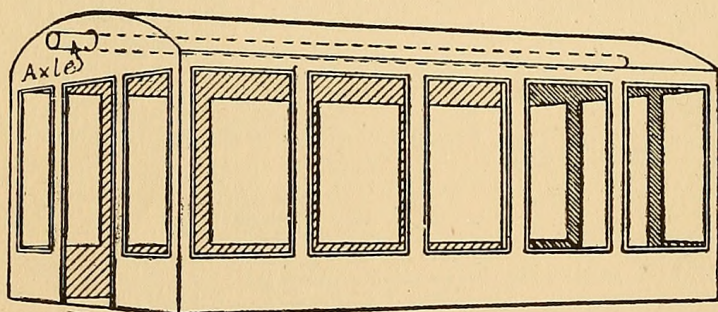

FIG. 277. — A Completed Car for the Ferris Wheel.
In folding and gluing the cars, slip the flaps inside and bend the roofs so they will follow the curve of the ends (Fig. 277).
**The Axles** from which the cars are hung (Fig. 277). Great care must be used in fastening them between the rims, for they are easily split, and the best way to do is
to start a hole first in the ends of each axle with an awl, or by driving a brad part way in and then withdrawing it; then drive a brad through each spoke of one rim into an axle (Fig. 275); slip the other ends of the axles through the holes in the ends of the cars (Fig. 277), and nail the spokes of the other rim to them.